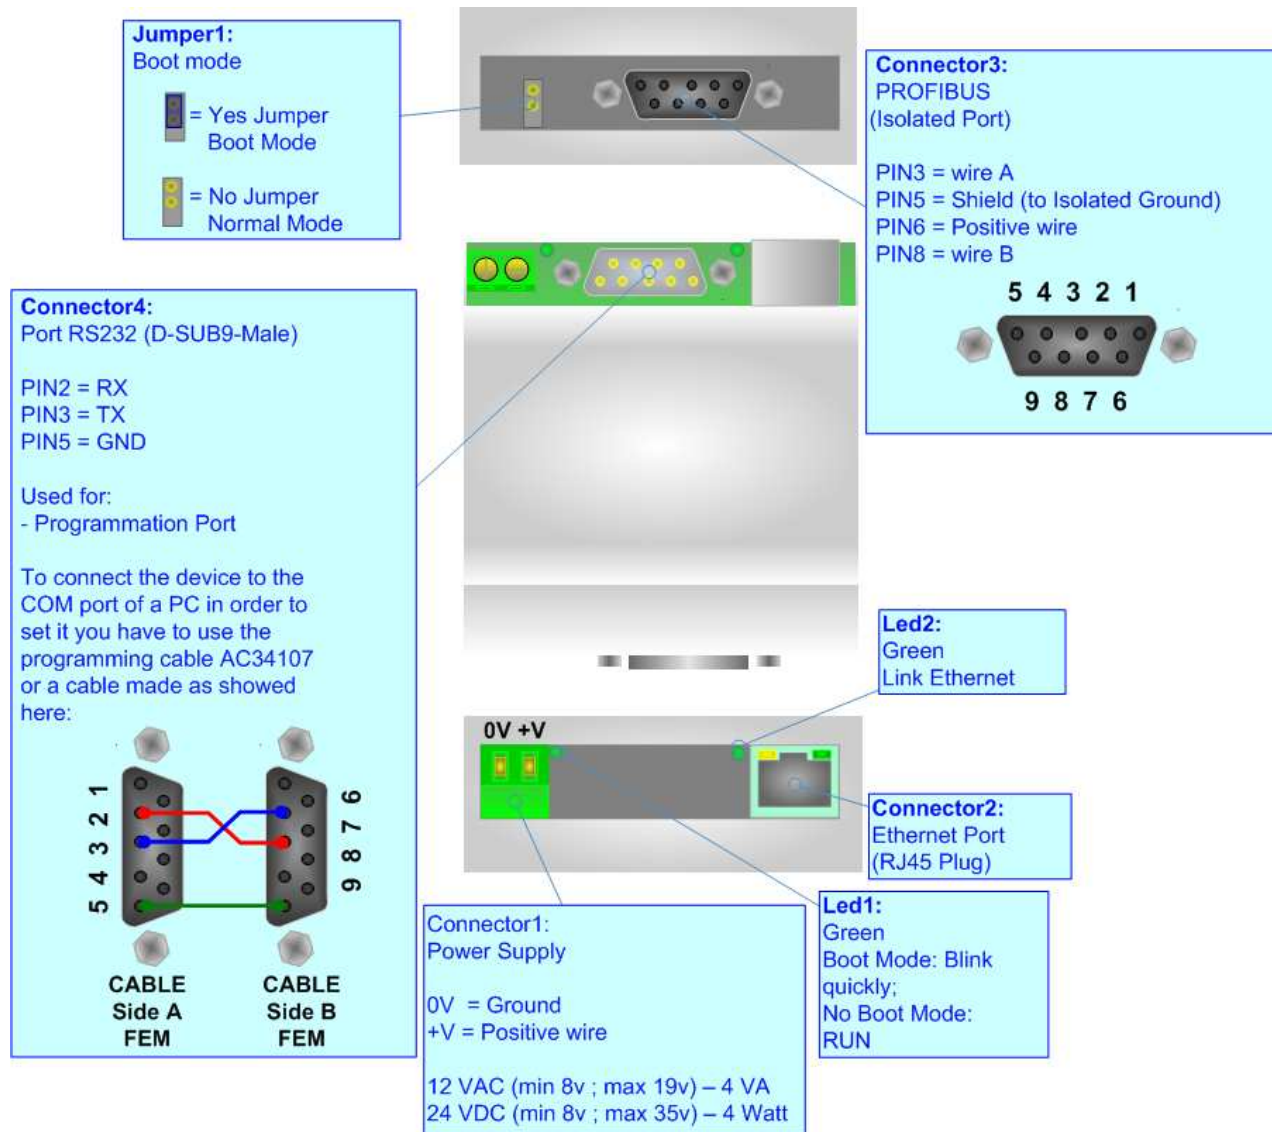

Figure 1: Connection scheme for HD67565M
- Insert the Boot Jumper (For more info see Fig. 1);
- Check the BOOT Led. It must blink quickly (For more info see Fig. 1);